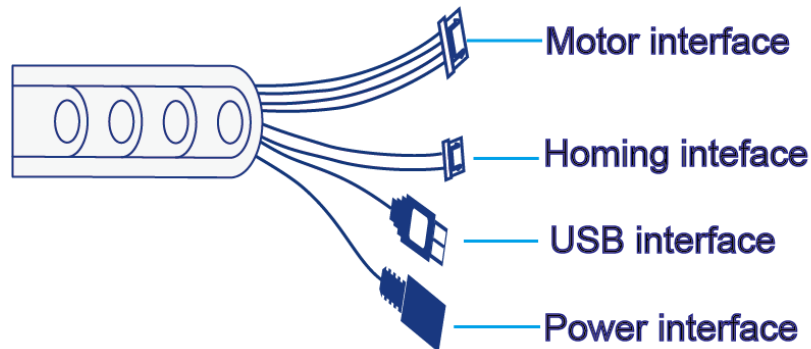

Figure 5.195 Interfaces on the other end of the wire set
Step 6 Connect the interfaces on the other end of the wire set to the power adaptor, USB interface of PC, motor interface and homing interface of the sliding rail respectively. Figure 5.195 shows the interfaces on the other end of the wire set.